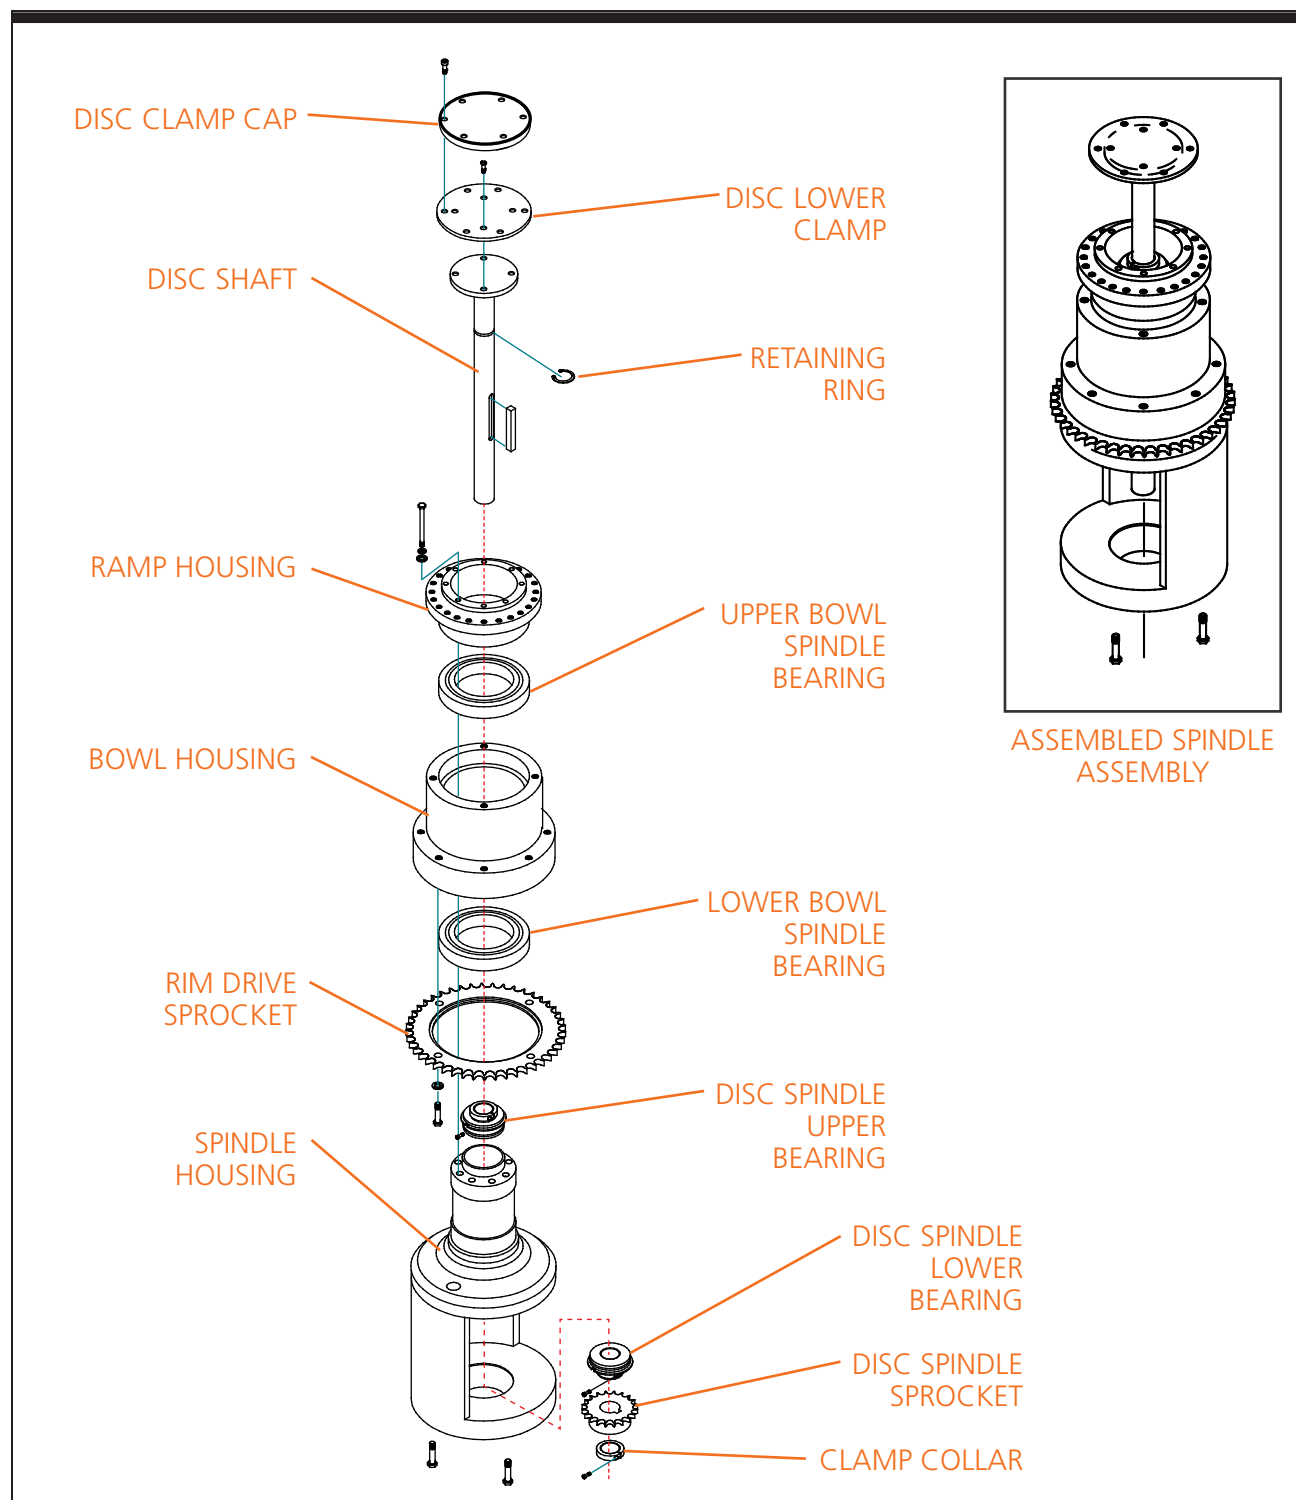

Figure 5-10. FT-40/FT-50 Spindle Assembly - Exploded View
Step 2—Loosen the Lower Bearing. To gain access to the lower disc spindle bearing, remove the chain from the disc spindle sprocket (refer to Figure 4-4). Loosen the clamp collar on the lower disc spindle bearing (see Figure 5-10), leaving the upper disc spindle bearing attached to the disc shaft.